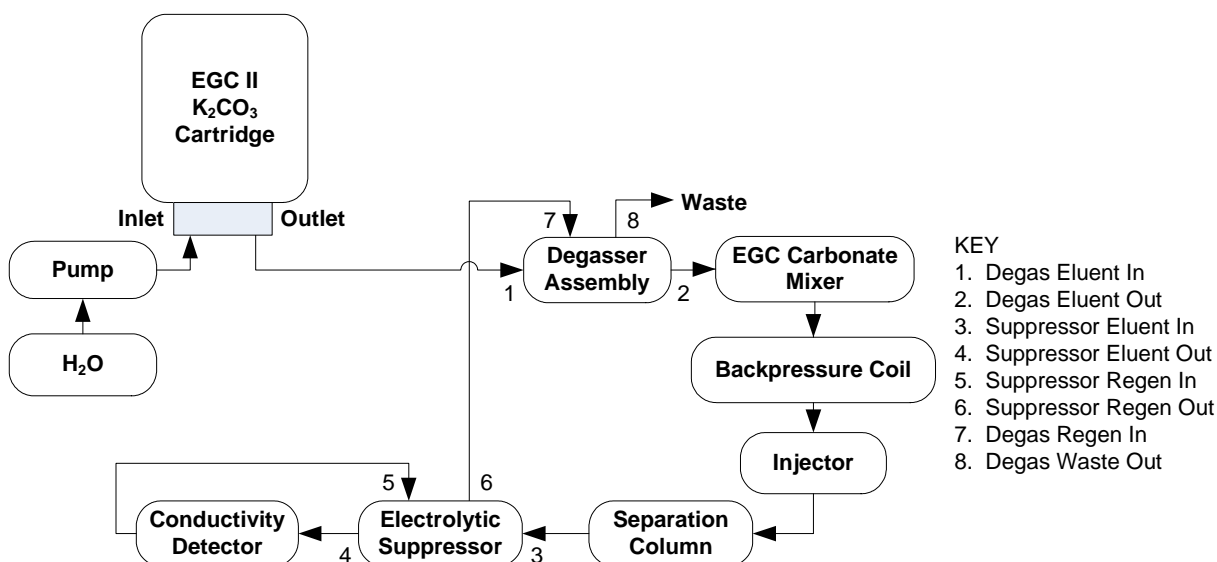

FIGURE 7
1. Complete the entire system plumbing as shown in Figure 7 for your application.